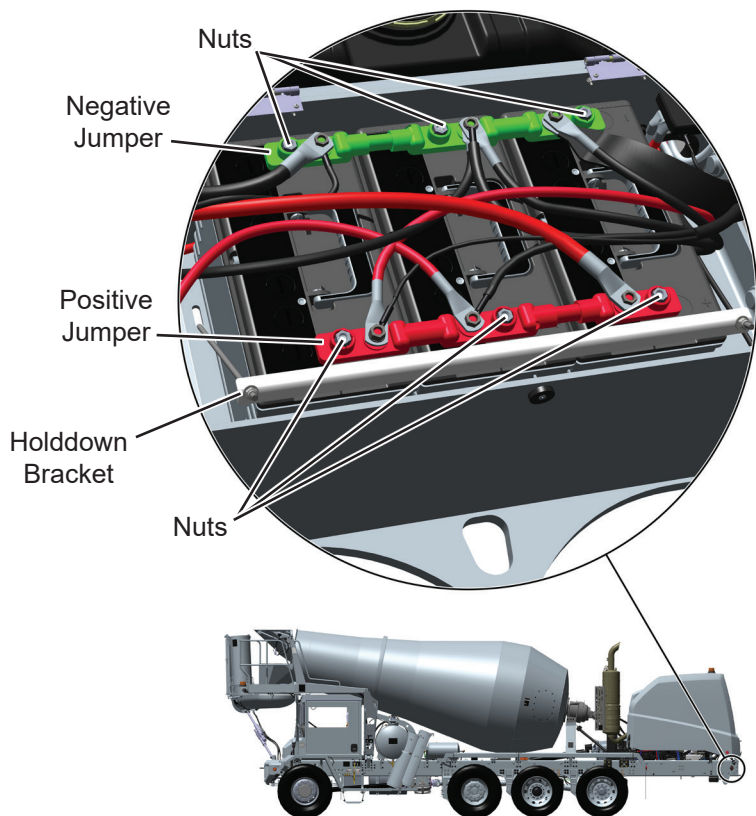

Figure 2. Battery Box
5. Loosen and remove the three nuts securing negative jumper to the batteries. See Figure 2.
7. Loosen and remove the three nuts securing positive jumper to the batteries. See Figure 2.
9. Loosen and remove nuts securing battery hold-down bracket. See Figure 2. Save nuts for reinstallation of hold-down bracket.
10. Remove hold-down bracket from batteries. See Figure 2. Save hold-down bracket for reinstallation.